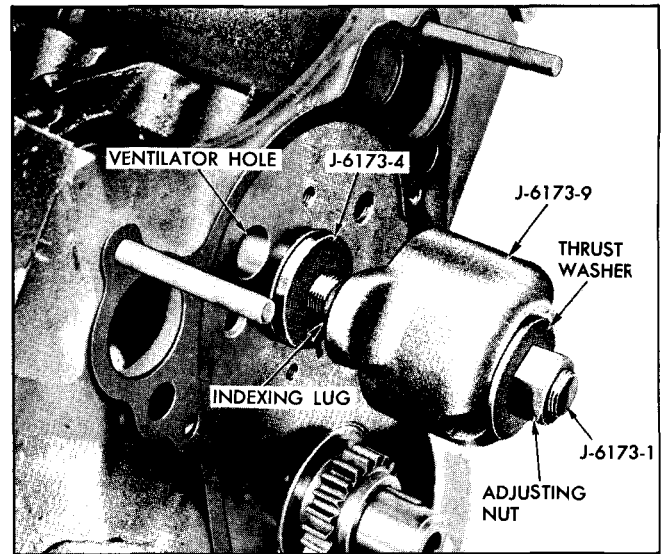

Fig. 6-131 Positioning Index Collar
ing to act as a support for shaft J 6173-1 (Fig. 6-131).
- c. Place indexing collar J 6173-6 on threaded end of shaft with open side toward unthreaded end and start thrust washer and nut on shaft (Fig. 6-131).
- e. Insert shaft with indexing collar, thrust washer, and nut through remover, pilot and replacer adapters. Index lug on collar with ventilation hole in front of block (Fig. 6-131).